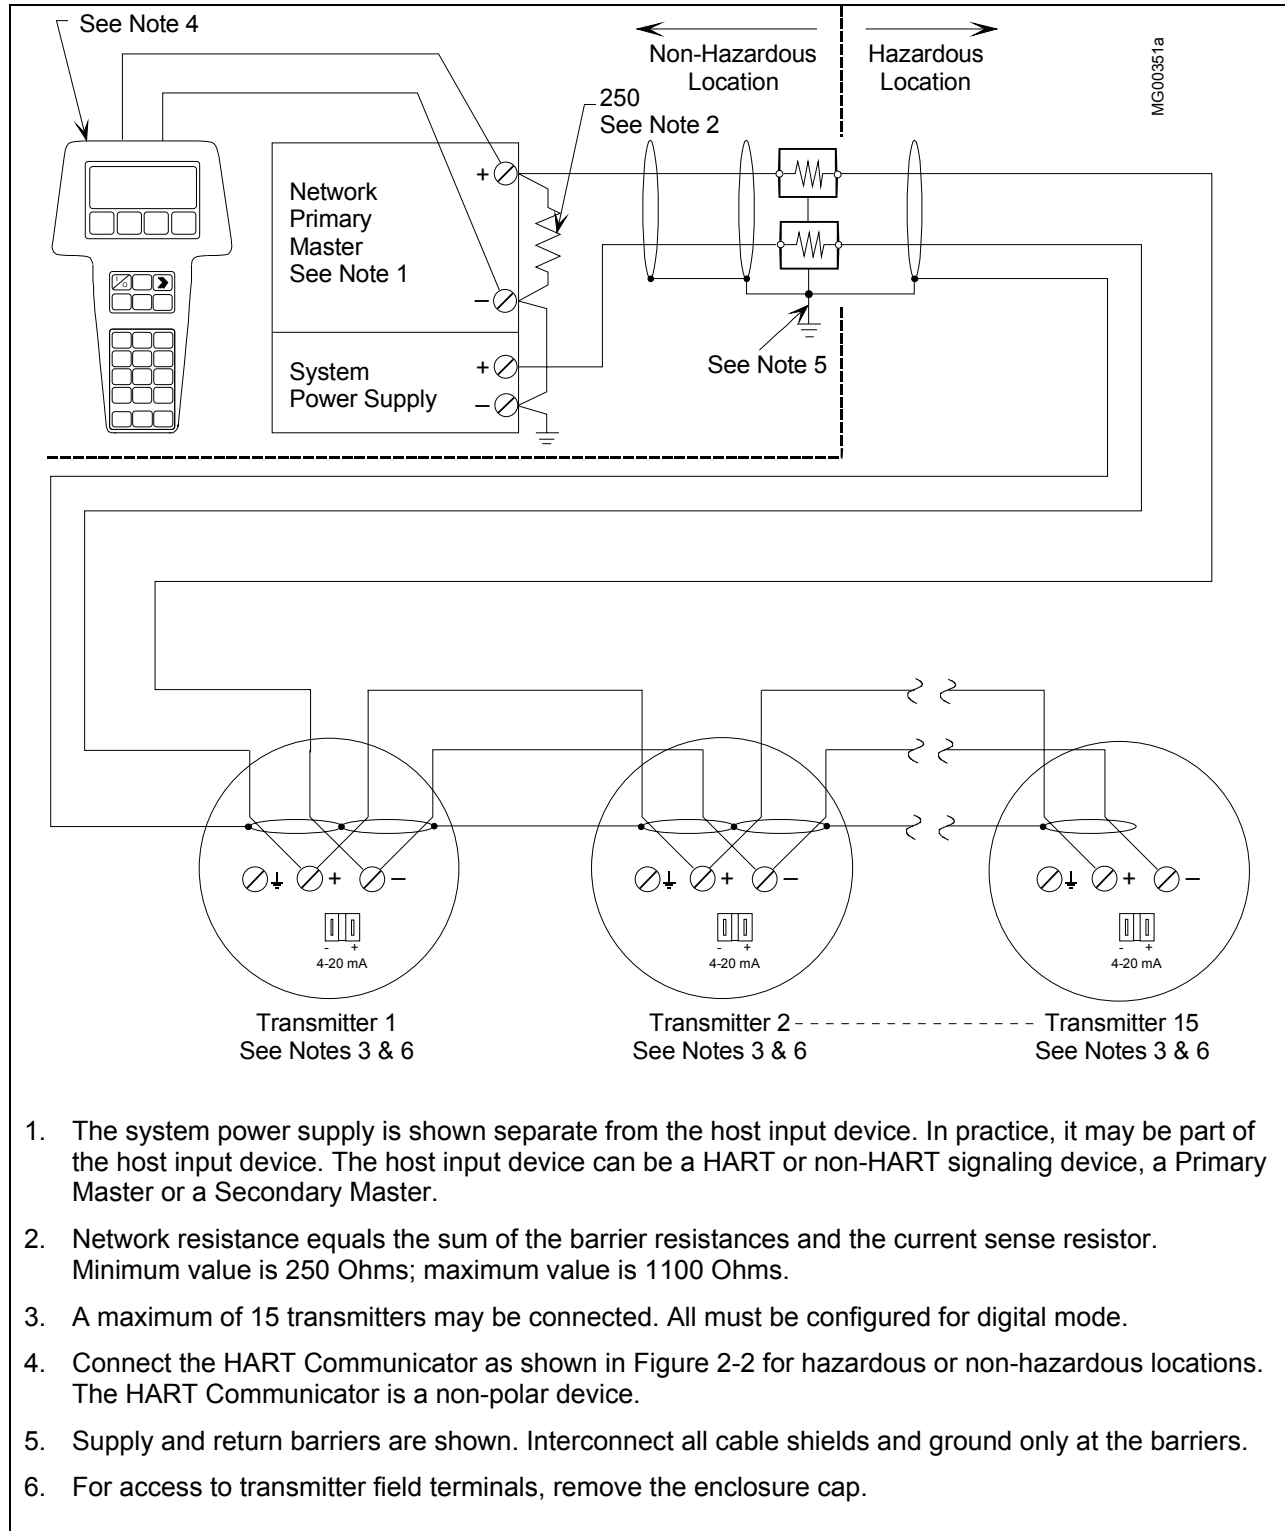

FIGURE 4-9 Multi-Drop Network (Digital Mode)
- Employs a Multi-Drop network. See Figure 4-9.